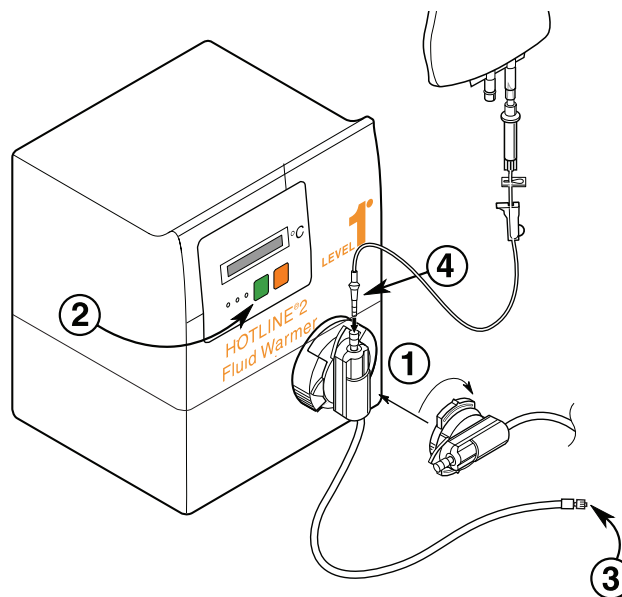

Figure 1
**NOTE:** *Figure 1 is a graphical representation of the following steps.*